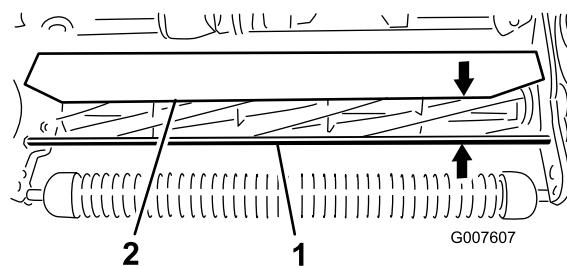

Figure 55
1. Measure the distance from the top of the front support rod to the front lip of the shield at each end of the cutting unit (Figure 55).